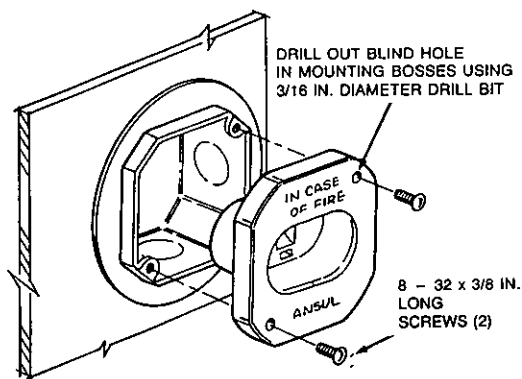

FIGURE 60
7. Select the two mounting bosses on the back of the cover which match up with the mounting holes on the junction box and drill out the blind hole, using a 3/16 diameter drill bit. Attach pull station cover and trim ring (if necessary) to junction box using two, 8-32 x 3/8 in. (.9 cm) long screws (supplied with junction box). Make certain wording on cover is oriented in the correct position. See Figure 60.